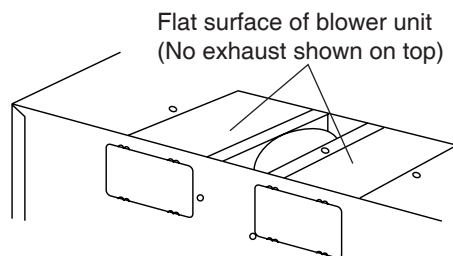

Fig. 1-2-3
- (4) Replace blower unit back into product. Be careful not to pinch the lead wires between blower unit and oven top. Make sure the fan blades are visible through the front exhaust openings. (Fig. 1-2-3)